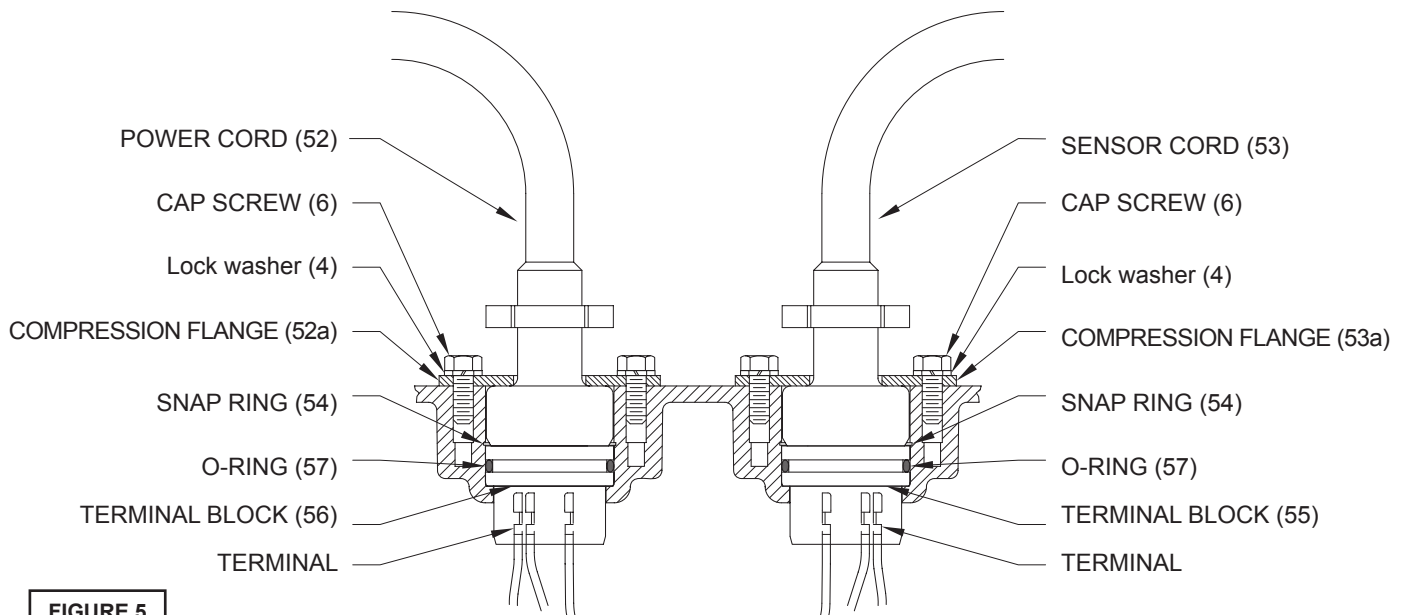

FIGURE 5
To examine or replace the motor (1), capacitor (3, single phase units), and bearing (47), drain oil from motor as outlined in paragraph F-1.2. Disassemble volute and impeller as outlined in paragraph F-2.1 and disassemble shaft seal as outlined in paragraph F-4.1. Position unit upright, using blocks to avoid resting unit on shaft. Unscrew cord hex bolts (6) and remove compression flange (52a) and power cord (52). Remove snap ring (54) with a flat head screwdriver. Pull the terminal block (56) out of the housing (2) using a T-bolt or pair of pliers and a .25-20 screw in the threads of the terminal block (56). Be sure to leave slack on the motor leads connected underneath. Use needle nose pliers to pull each female connector off of the pins on the underside of the terminal block (56) (see Figure 5). The unit voltage should be noted. Repeat cord and terminal block removal procedure for any sensor cords (53). Remove socket head cap screws (51).
Reconnect motor and sensor leads to the underside of the terminal block(s) (56), (55) as shown in Figure 5 & 11. Note that the pins are numbered underneath the terminal block. Place o-ring (57) into groove in terminal block and lubricate with dielectric oil. Press the terminal blocks (55) (56) into the housing so it seats completely below the snap ring groove. Place snap ring (54) into groove in cord entry bore of motor housing (2). Repeat terminal block installation for sensor cord, if equipped.